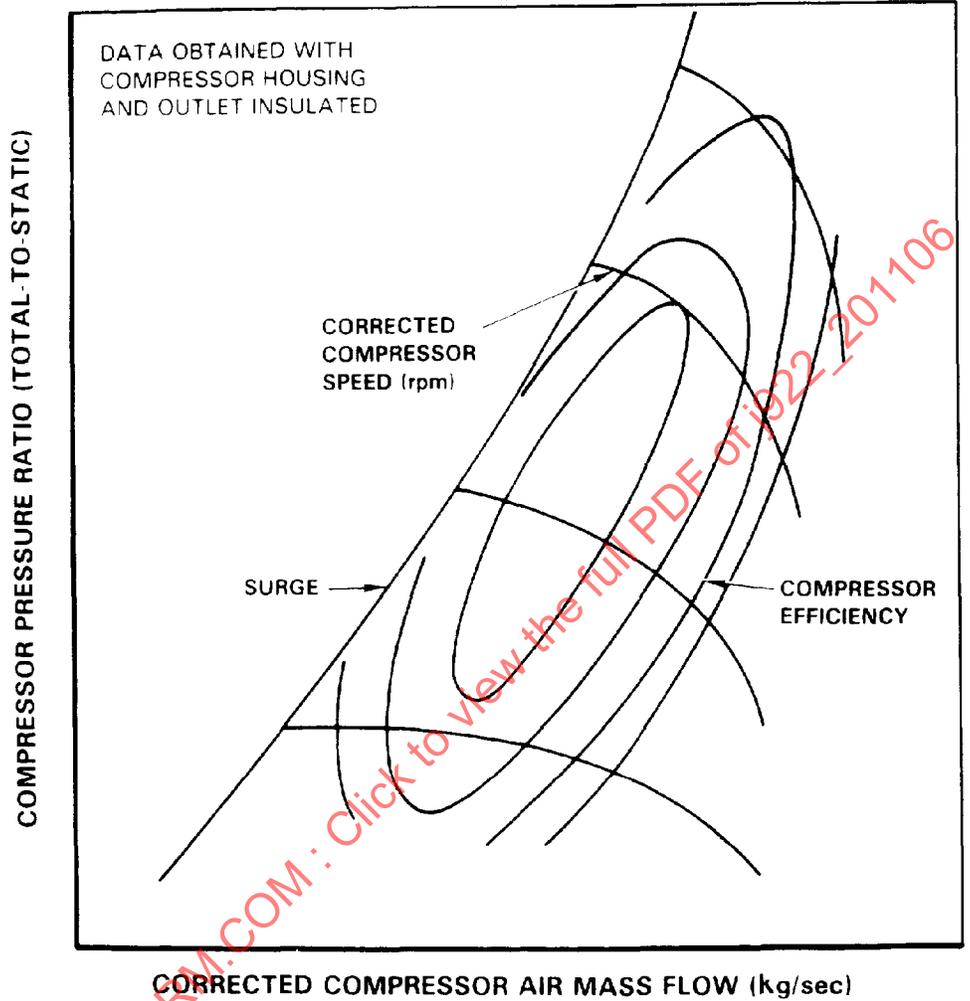

FIGURE 1—TYPICAL TURBOCHARGER COMPRESSOR PERFORMANCE GRAPH
**5.1 Fixed Geometry Compressor**—(See Figure 1.).